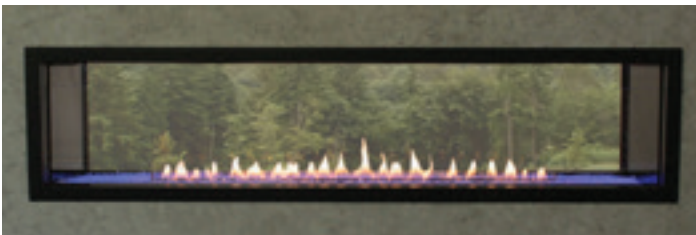

Figure 12
**OPTION 1** allows the non-combustible board to be installed within 1/16 inch of the flange around the fireplace opening. By taping the joints between the non-combustible board and the surrounding wallboard and then expertly finishing the wall with plaster or high-temp paint, a Clean Face look like the photo below may be created. (Increase the gap to 7/16 inch, if there's a plan to install a decorative front as shown below). See Figure 12.